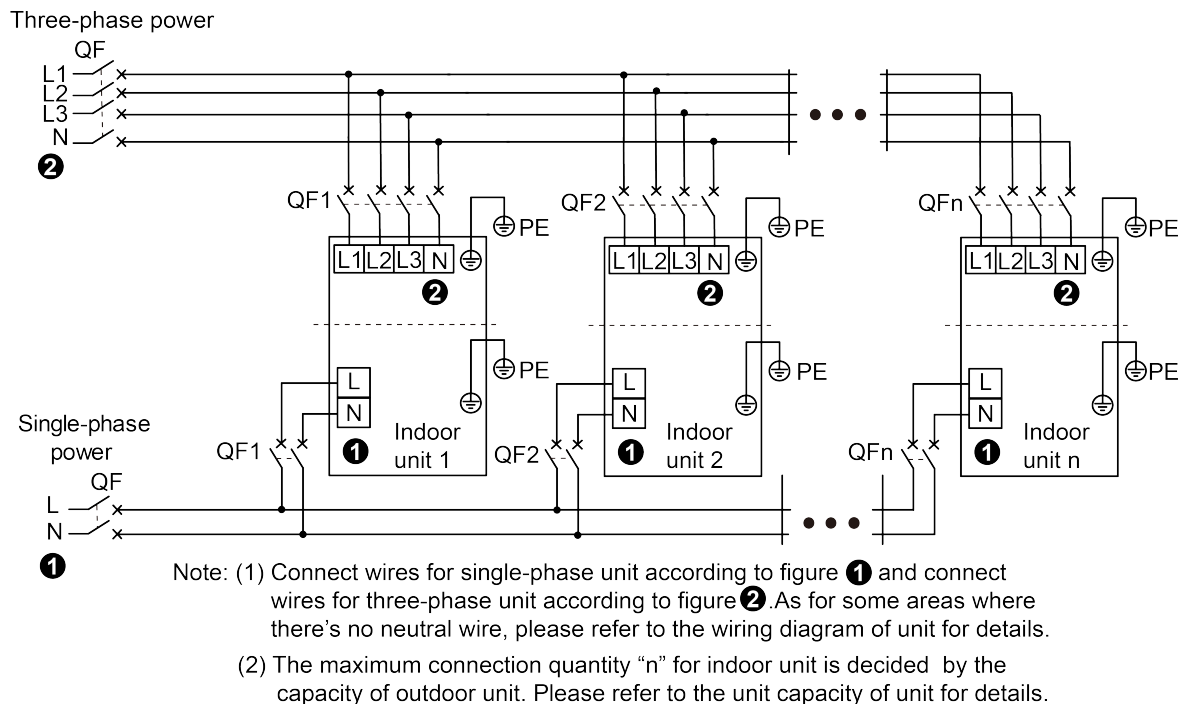

Fig.4.20
- (1) Detach the electric box lid.
- (2) Let the power cord pass through the wiring through-holes.
- (3) Connect wires according to Fig. 4.20.
- (4) Fix the power cord with wiring clamp.